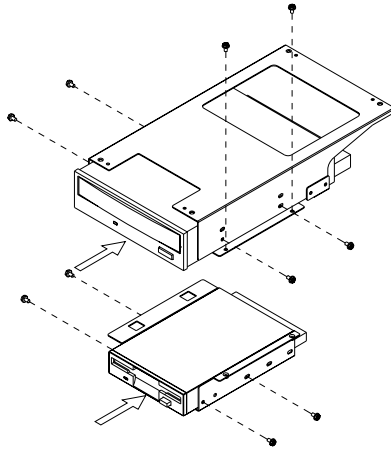

Figure 2.7: Installing the disk drives
3. Insert the disk drive into the proper location in the disk drive housing, and fix it with the supplied screws. (see *Figure 2.7*)